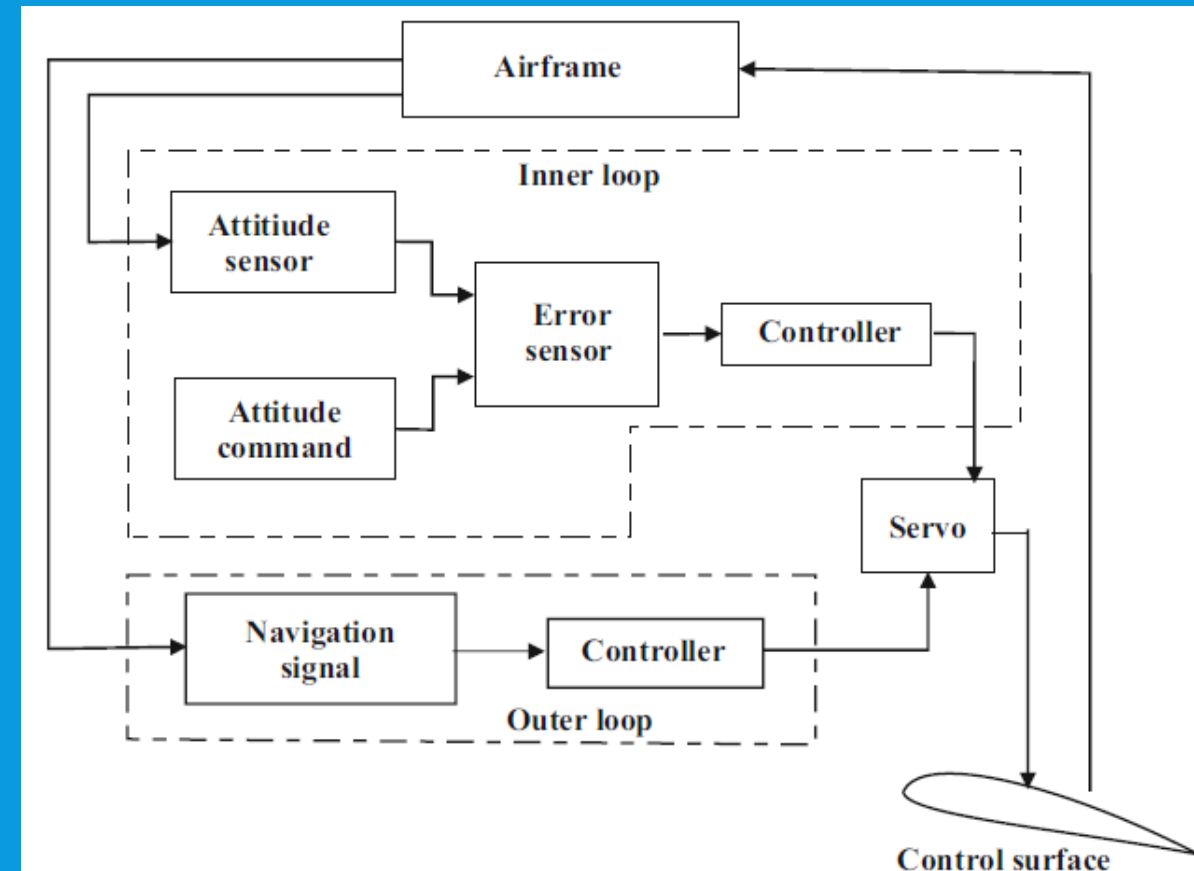

Figure 5.8 Flight control system block diagram
- A block diagram of a feedback control system showing both the inner and outer loops is shown in Figure 5.8.